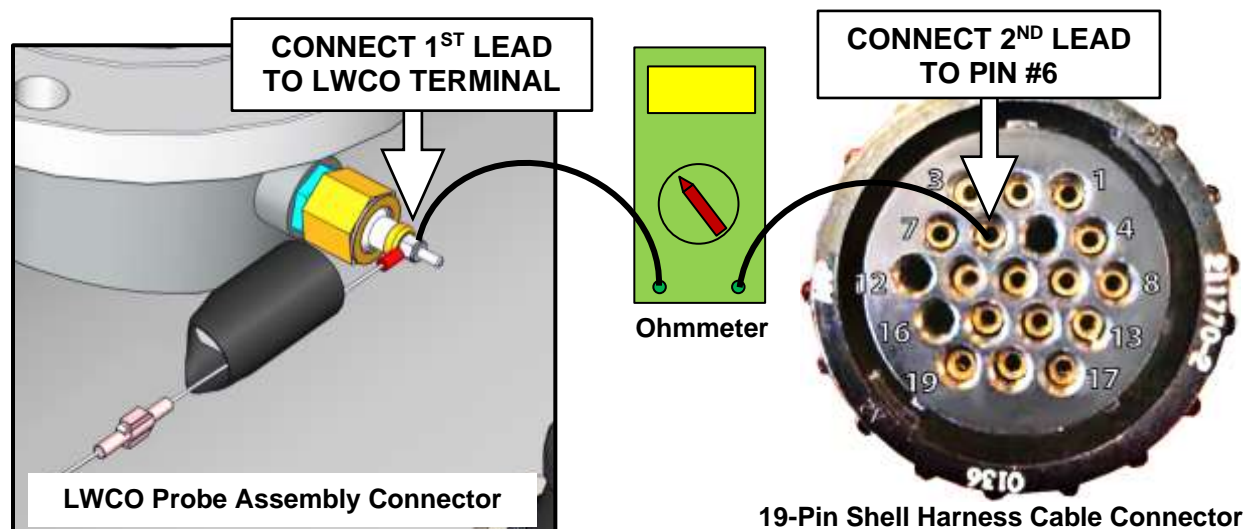

Figure 4-14: Connecting Ohmmeter between LWCO Probe & Shell Harness Cable
3. Using an ohmmeter, connect one ohmmeter probe to the LWCO capacitor terminal on the unit shell as shown on left in Figure 4-14.
4. Connect the second ohmmeter probe to Pin #6 of Shell Harness Connector (removed from the C-More Controller) as shown on right in Figure 4-14.